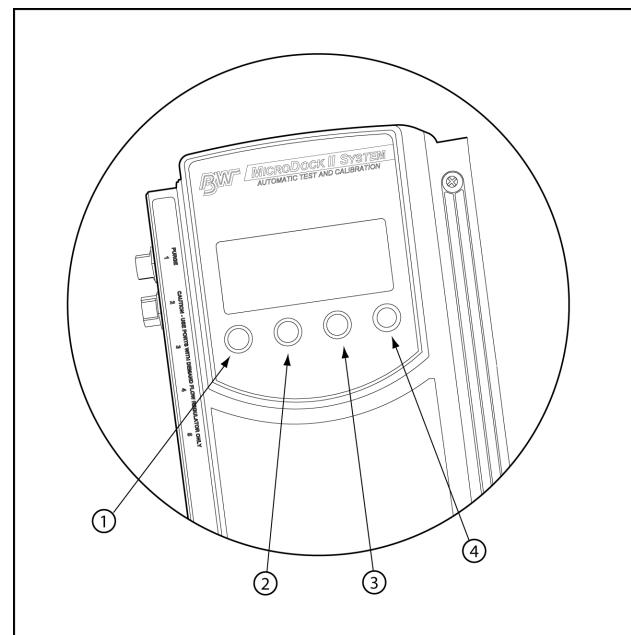

Figure 3. Base Station Pushbuttons
- Figure 3. and Table 5. Base Station Pushbuttons